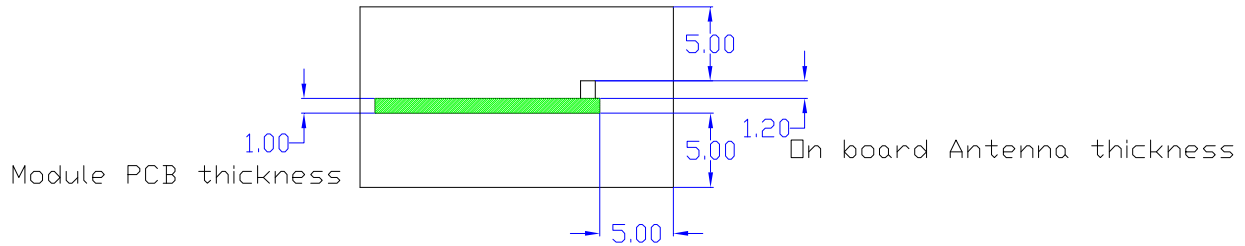

Figure 6-7 Recommended clearance above and below the PCB trace antenna
- The onboard chip antenna keep out area, as shown in Figure 6-5, must be adhered to. In addition it is recommended to have clearance above and below the PCB trace antenna (Figure 6-7) for optimal range performance.
- Recommendation is to keep plastic enclosure clearance of 1cm from top and bottom of the DFZM-TS2xx onboard chip antenna keep-out area, if possible. 5-mm (0.2 in) clearance shall be the minimum as shown in Figure 6-7.